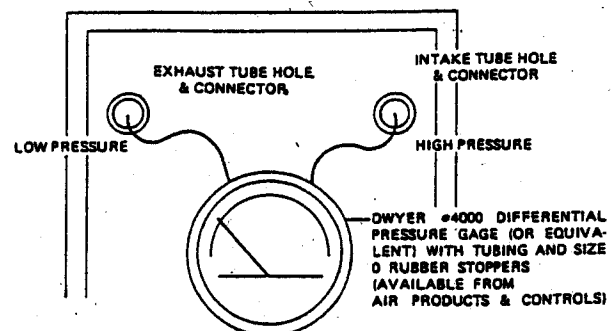

FIG. 3 AIR SAMPLING VERIFICATION
F. AIR SAMPLING VERIFICATION (See Figure 3)
To verify proper sampling of air, use a Dwyer Model 4000 differential pressure gage (or equivalent). See Figure 3 for gage connections. The pressure differential between input sampling tube and exhaust tube should be greater than 0.01" of water and less than 1.2" of water.